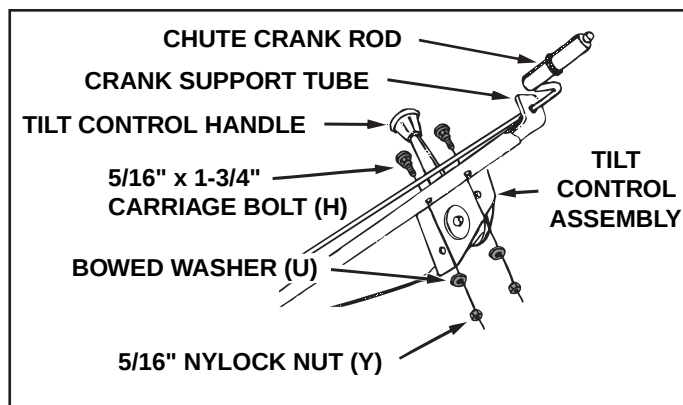

FIGURE 50
STEP 51: (SEE FIGURE 50)
- Attach the chute tilt control assembly to the top side of the crank support tube using two 5/16" x 1-3/4" carriage bolts (H), bowed washers (U) and 5/16" Nylock nuts (Y).